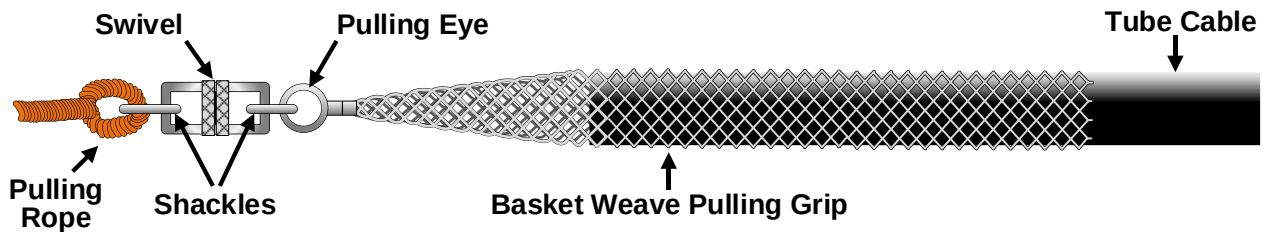

Figure 19
16.2.1 The pulling end of the Tube Cable must be properly prepared to endure the pulling tension encountered during installation. The typical method for attaching a pulling rope to a Tube Cable end is with standard basket weave style pulling grip. **See Fig. 19.**